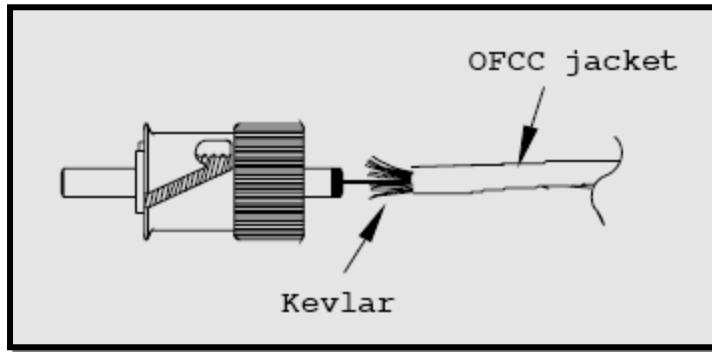

**Figure 2-104. Applying Epoxy to the Connector Barrel**
**Step 8** - Apply a very thin band of epoxy to approximately 3 mm (0.12 in) of the connector barrel (see figure 2-104).